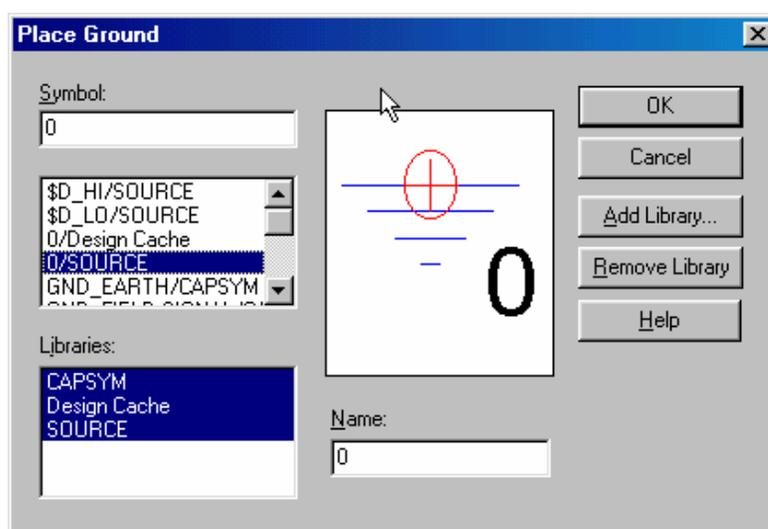

Figure C-6.
- Finally, all circuits need a ground reference so we know where the voltage is equal to zero. Click on the *Place Ground* button, that is about half way down on the right . You want to choose the *0/SOURCE* ground from the *Place Ground* window shown in Figure C-6, since it is the only one that works with *PSpice*. If the 0 ground is not listed, you should use Add Library to load the *PSpice/SOURCE* library.